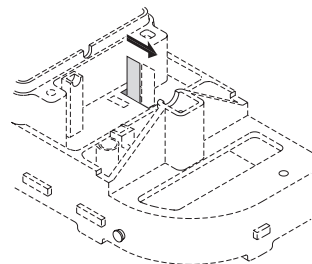

Figure 26
8. The metal ratchet tab slides out of its slot sideways; replace it by removing the center brushes and sliding in a new ratchet tab until it is flush with the edge of plastic holder (**Figures 26 and 27**). Replace the center brushes.